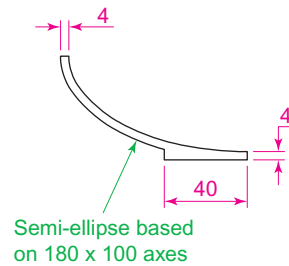

Fig. 12.22 Second example – Revolve. The pline outline
- Construct the pline outline (Fig. 12.22).